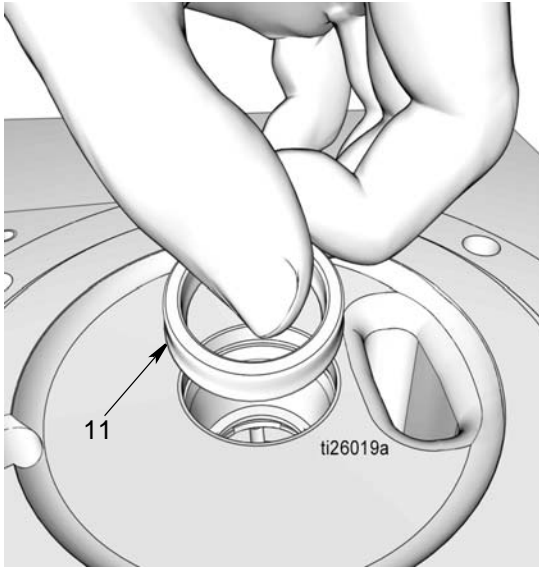

FIG. 33
- d. Install seal (11). Be sure the lips of the seal are facing down as shown in FIG. 33.